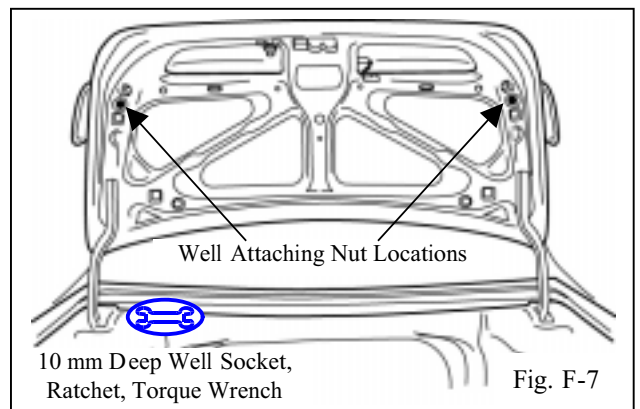

Fig. F-7
-  7. Open the trunk lid and install the two (2) flange nuts to the studs. Tighten the nuts to 6 N-m (53 lbf-in) of torque. (Fig. F-7)